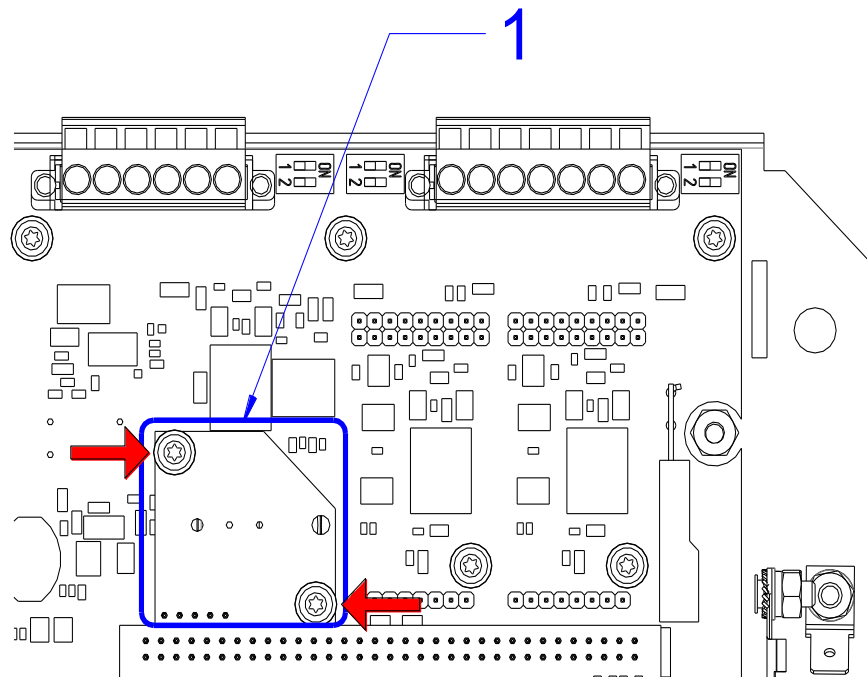

Fig. 32 – Location of the battery module and assembly screws
- Release the actual battery module, according to Fig. 32 using the T10 screwdriver.